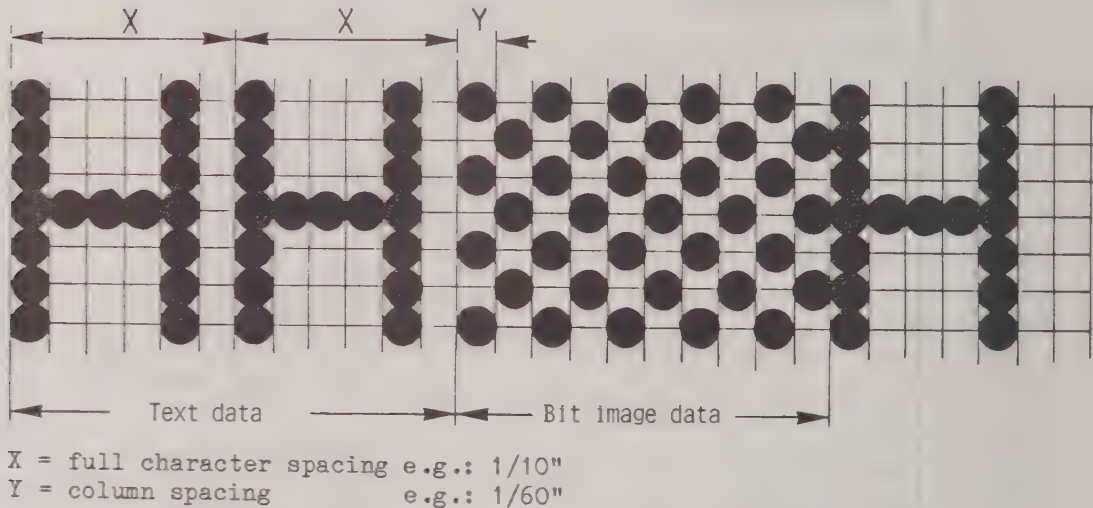

Fig. 6/9 Switchover between character printing and bit-image printing
- After reception of the last bit-image information, the following text character is printed without a space, irrespective of the matrix as determined by the character spacing (Fig. 6/9).